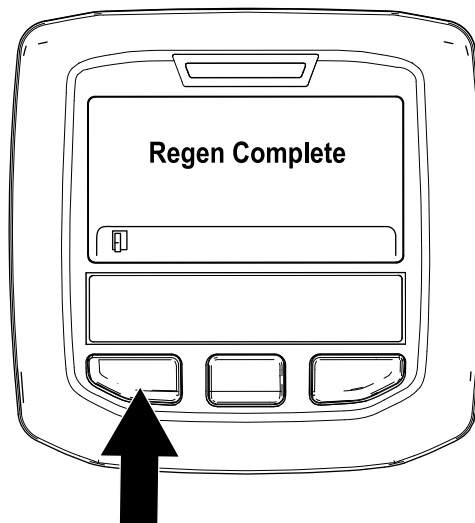

Figure 53
9. The parked regeneration is complete when the "Regen Complete" message displays in the InfoCenter. Press the left button to exit to the home screen (Figure 53).